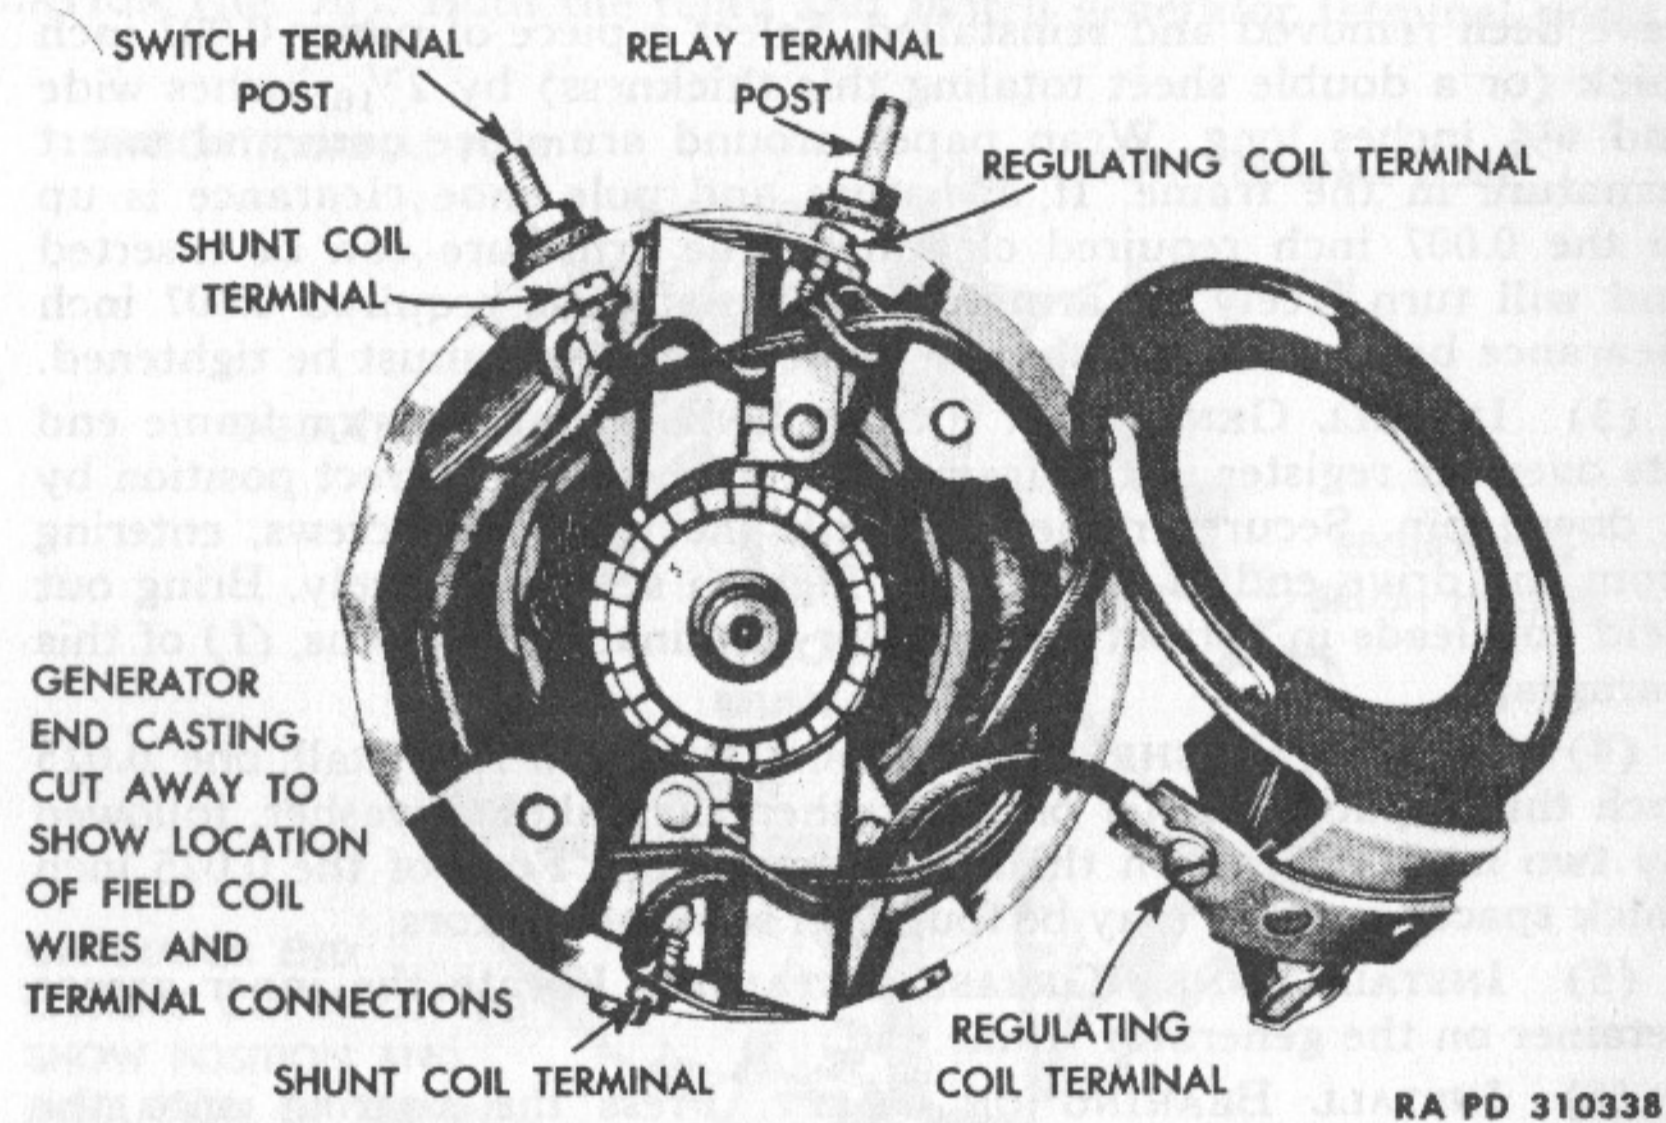

Figure 77—Generator Section Showing Arrangement and Connection for Field Coil Leads
(1) SEATING BRUSHES. If brush faces do not seat fully on the commutator, they should be dressed and faced with 2/0 flint paper until they fit commutator curvature perfectly.
(2) CONNECT FIELD COIL TERMINALS (fig. 77). Arrangement of the field coil leads must be just right so they will clear the armature.